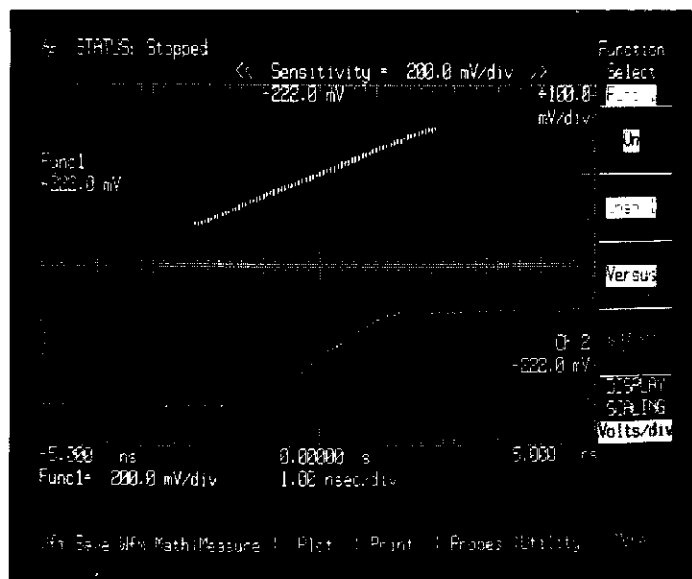

Figure 7-32. Chan 1 Versus Chan 2 with Precise Timing Resolution.
5. Press the More key and select the Wfm Math menu. Turn Func 1 On and select Chan 1 Versus Chan 2 (See Figure 7-32).